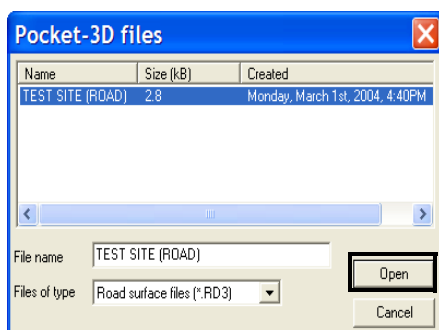

Figure 6-9. Select and Open Pocket-3D Alignment File
3. On the **Pocket-3D files** dialog box, select the file to import and click **Open** (Figure 6-9). The file type is automatically selected. The alignment information from the selected file is added to the 3D Project file.